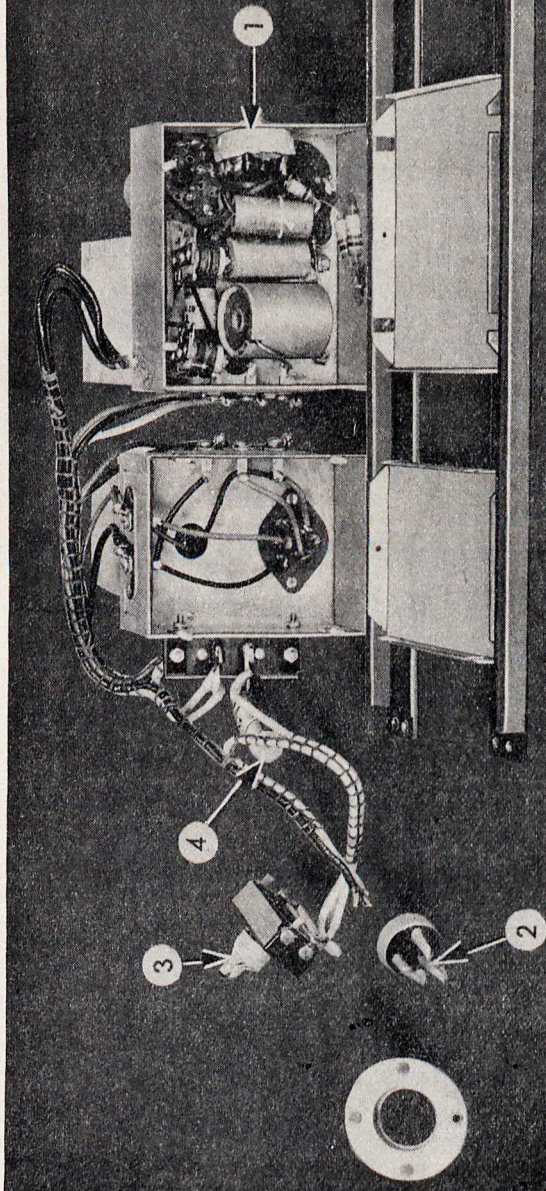

Figure 19. Power supply, vibrapack assembly, masking details.
1. Remove eight nuts holding the filter unit and vibrator pack to the support strips (fig. 19).
2. Remove four screws from the bottom edge of the filter unit and six screws from the bottom edge of the vibrator pack. Remove the two covers (fig. 19).
(2) Power Pack.
(a) Mask the selector switch on the underside of the vibrapack chassis (fig. 19 (1)).
(b) Mask the contacts and threaded screw holes of the power supply plug body (fig. 19 (2)).
(c) Mask the holes of the power supply connector plug (fig. 19 (4)).
(d) Wrap masking tape around the toggle and threaded neck of master power switch (fig. 19 (3)).
(3) Optical Unit.